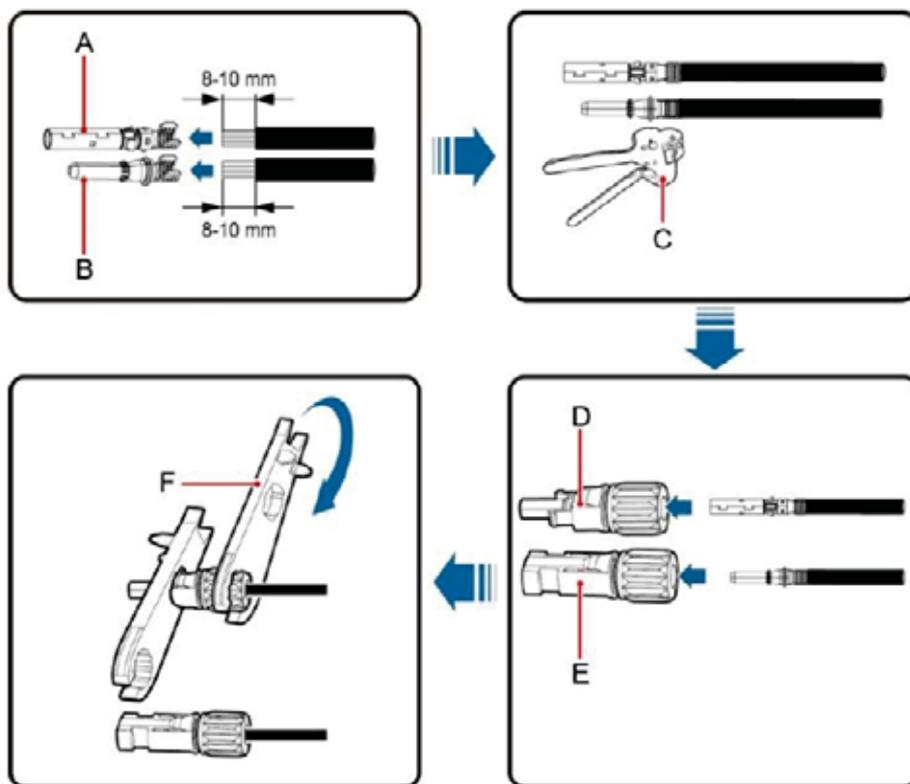

Figure 4.11 Connection between DC connector and solar modules
- (2) Connect the output cables of solar modules to the DC connector as figure 4.11 shows. Remove the isolation layer of the DC cable for about 8-10mm. Insert the conductor part into the appropriate position of the connector, crimp the MC4 DC terminal and tighten the nut with a torque of 2.5-3Nm. The wiring of negative pole is the same as that of the positive pole. Ensure the poles of solar modules are well connected with the connectors;